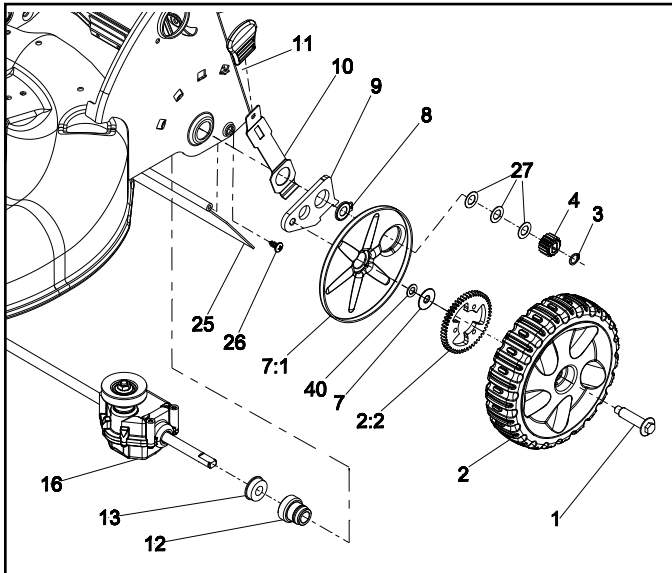

Fig. 160
1. Remove (2) screws (#26) from trailing shield (#25) and remove trailing shield (Fig. 160).
2. Remove both wheel assemblies (#2) (Fig. 160).
4. Remove retaining rings (#3), pinion gears (#4), bearing retainer retaining rings (#8), pivot arms (#9), and height-of-cut spring arms (#10) (Fig. 160).
5. Slide both bearing retainers (#12) in toward the transmission case (Fig. 160).